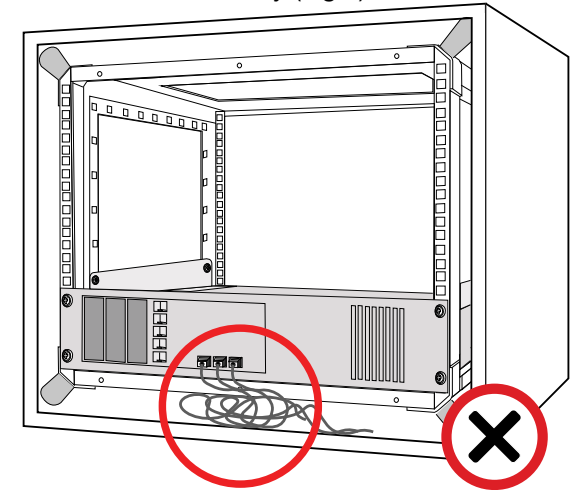

Fig 6
- Ensure there are no projections (wiring/looms/fans) that protrude outside the envelope of the chassis, which may inhibit the sway space and impede the free travel between the chassis and the outer rack body when the rack is dropped and the chassis reaches full excursion (Figs 6 & 7 below)